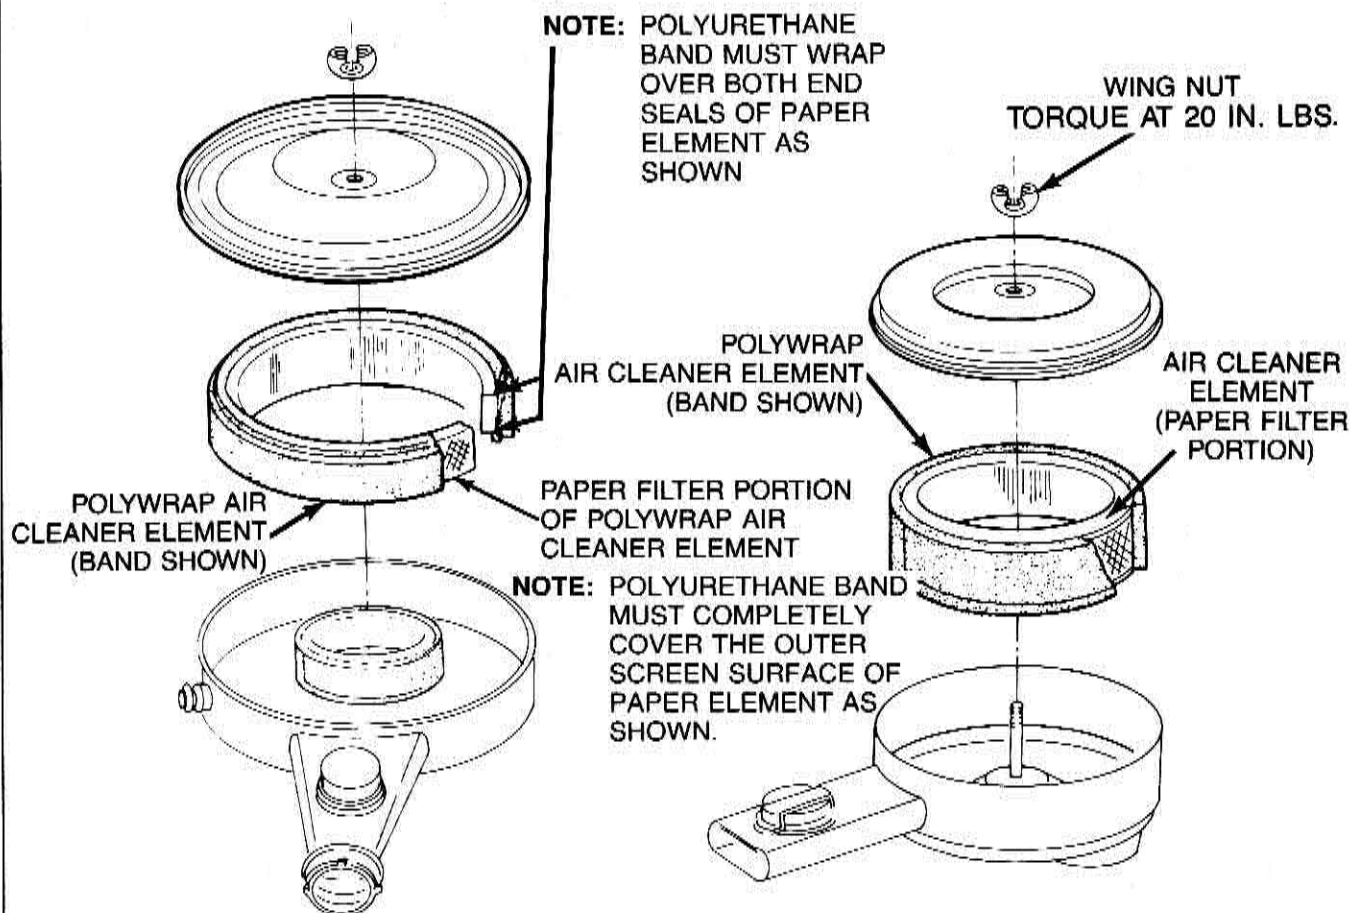

Figure 7-61 — Polywrap Air Cleaner
3. Remove the polywrap band from the paper element and discard the element (Figure 7-61).